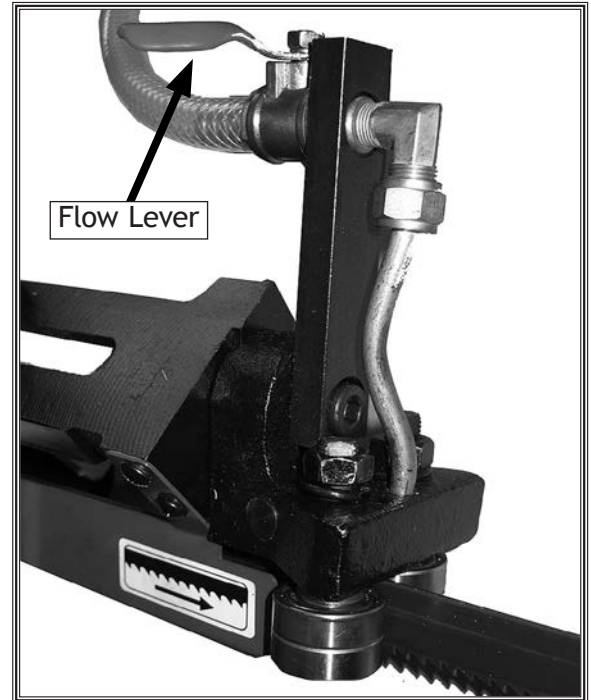

Figure 36. Lubricator flow control lever.
11. Adjust the flow lever so enough cutting fluid is pumped so that both sides of the blade are cooled, lubricated, and the chips are washed from the cut (see **Figure 36**).